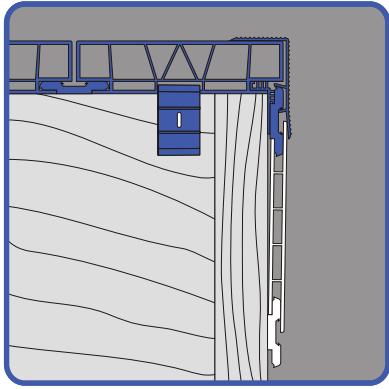

Figure 9
**Step 8.** Slide fascia under the finishing trim and around anchor biscuits to conceal rim joists (see Figure 9). Slide anchor biscuits into the slot along the bottom of the fascia. Place one biscuit every 16" along the bottom of the fascia. Secure each anchor biscuit to the rim joist by driving a 1½" deck screw through the slot.
**Step 2.** Notch **AURORA** Deck boards to fit around the rail posts (see Figure 9). The notch should be ½" wider than the rail post in every direction. The notch for a 4 × 4 rail post should be 4½" wide × the required notch depth + ½".